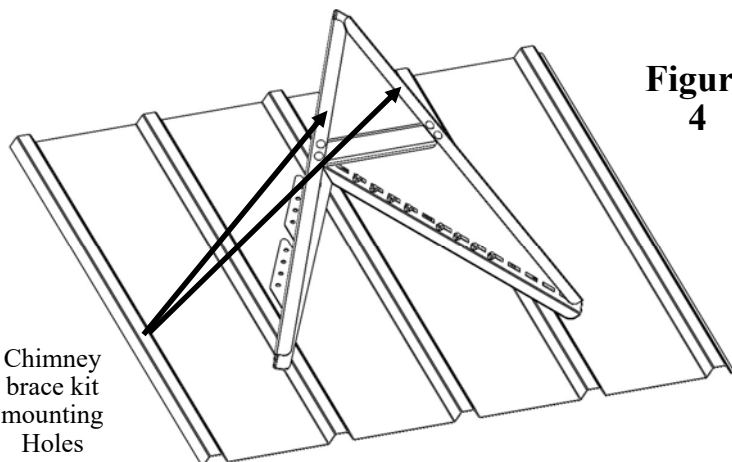

Figure 4
8. If a chimney brace kit is needed (KA TL SDBK), it can be fastened to the 2 holes near the top of the divider. (Figure 4).